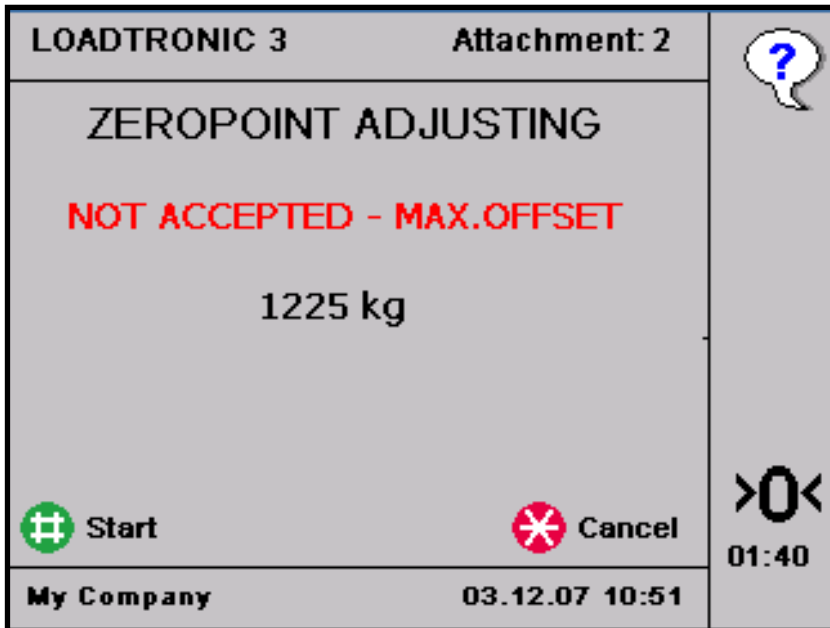

Figure 3-12 Error message when the zero point adjustment has failed.
6. **When the zeropoint adjusting is OK and completed, the LOADTRONIC 3 automatically returns to automatic weighing after showing the adjustment in kg. Accumulated load will be continued. When the zeropoint adjusting is not OK an error message appears in the display, refer Figure 3-12.**
- The zeropoint adjustment can be initiated (allowing adjustment up to  $\pm 20\%$  of max load) by pressing  $>0</F4$  twice after a system restart (switch the LOADTRONIC main unit OFF then back ON). Follow the instructions given on screen, refer Figure 3-12. Repeat the zeropoint adjustment.